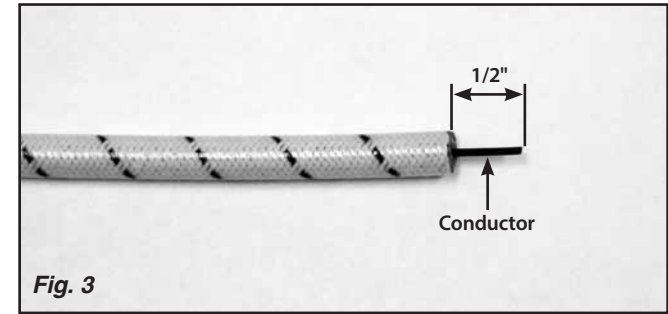

Fig. 3
Step 7: Bend the cut section back and forth a few times to break the insulation free from the conductor core in the cable. Pull the insulation off of the cable, leaving 1/2" of the conductor sticking out. **Fig. 3**